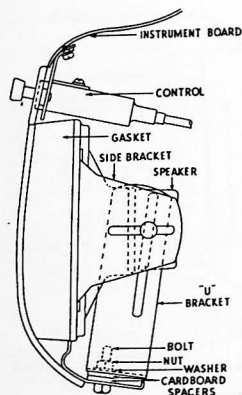

Figure 9
3. Fasten the "U" bracket to the instrument board flange with the nuts, bolts and washers, using two cardboard spacers under each bolt. Make sure that the long slot in the sides of the "U" bracket are away from the grille. (See figure 9).
5. Loosely assemble the side brackets on the speaker to the "U" bracket and force it forward and in position as shown in Figure 9. Then tighten the nuts.